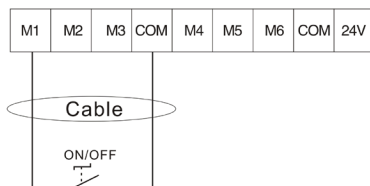

Figure 12. ON/OFF Control Switch Circuit Wiring Connections
- Solar pump controllers can be turned ON/OFF by a control terminal input. See Figure 12 for details. **Note:** F0.01 must be changed to 1 while the ON/OFF Control Switch is needed.